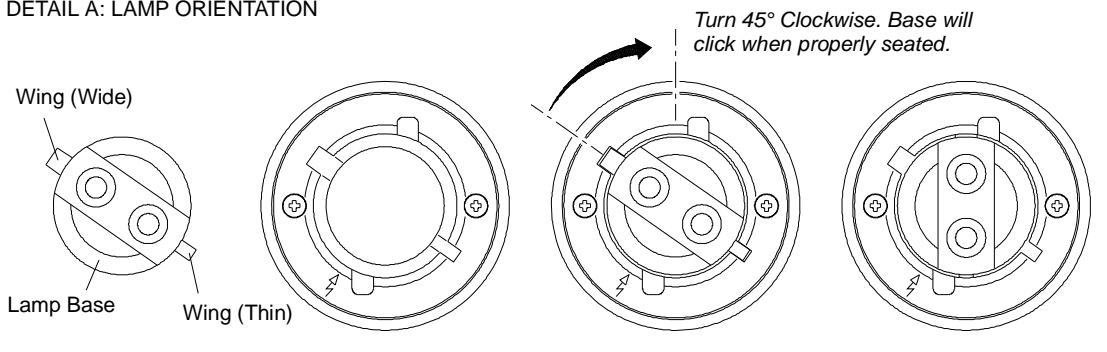

Figure 4-8: Replacing the Lamp
- Step 3. At rear of luminaire, rotate backcap counter-clockwise to remove (it will still be connected by a tether). Refer to **Figure 4-8** on next page.
- Step 5. Position new lamp as shown in **Figure 4-8** DETAIL A and insert into rear bulkhead. Rotate 45 degrees clockwise to lock in place. You will hear a click when properly seated.